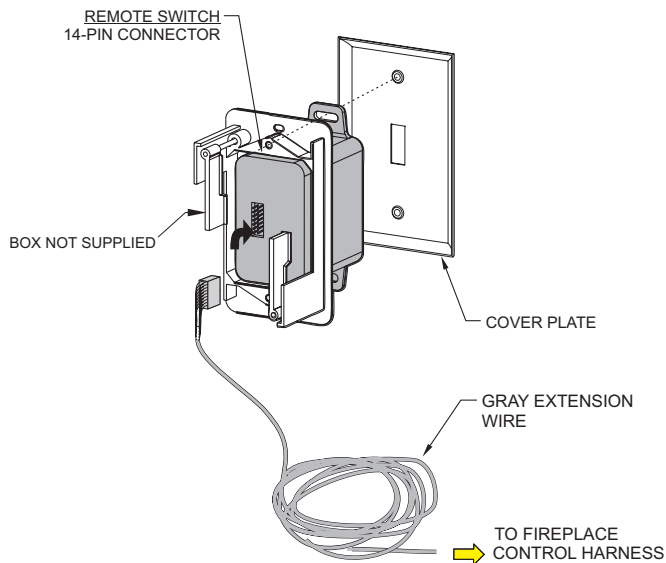

Figure 38
15. Route the gray remote receiver harness through the bushing. Mount the controls and connect the wiring. Secure wiring to stud. See Figure 38.